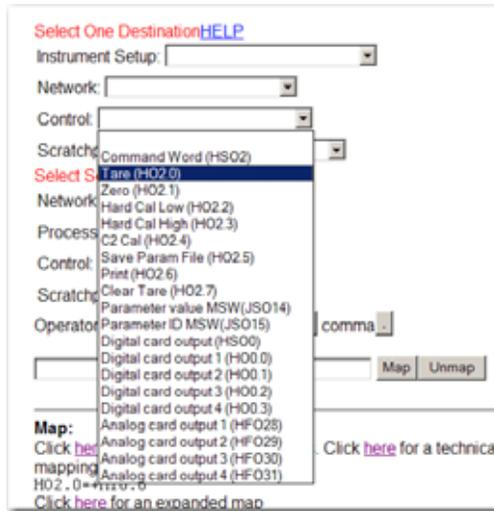

FIG. 264 DESTINATION/SELECTING TARE
- Click on Mapping. (See Fig. 263) The Mapping Page appears. (See Fig. 264)